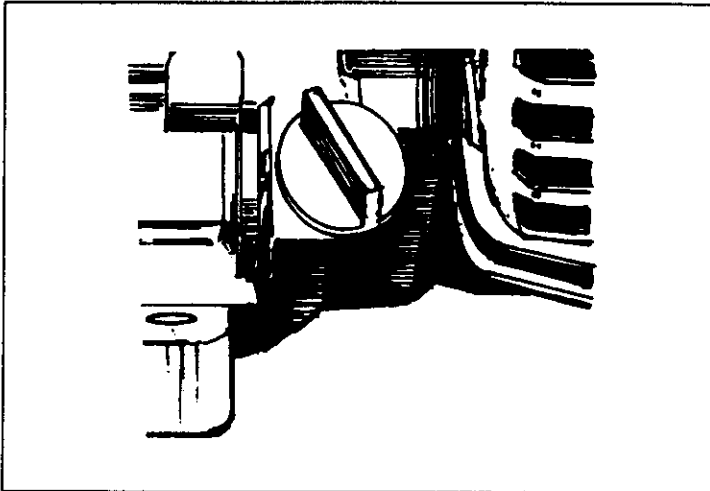

FIG. 5
- Place generator on a level surface and remove one of the yellow Oil Fill Caps (Fig. 5) and add engine oil until level is at point of overflowing. Check engine oil level before starting each time thereafter. If oil level is below point of overflowing, fill to proper level. The recommended oils include (during summer months) SAE 30 oil. SAE 10W-30 is an acceptable substitute. During winter months use SAE 5W-20 or 5W-30. DO NOT USE 10W-40. Crankcase oil capacity is about 720ml with oil filter.